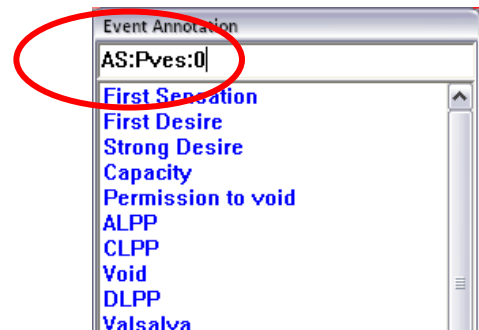

Figure 66: Event Annotation Window, "AS:"
3. Create the **Area Start** event by typing the format *AS:pressure channel:threshold value*. In this example *AS:Pves:0* means that the area under the Pves curve above a threshold of 0 will be calculated (Figure 66).